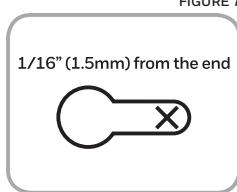

FIGURE 7
- To mount the LED Driver, place the LED Driver in desired location and clearly mark the locations for the mounting holes (see Figure 7).